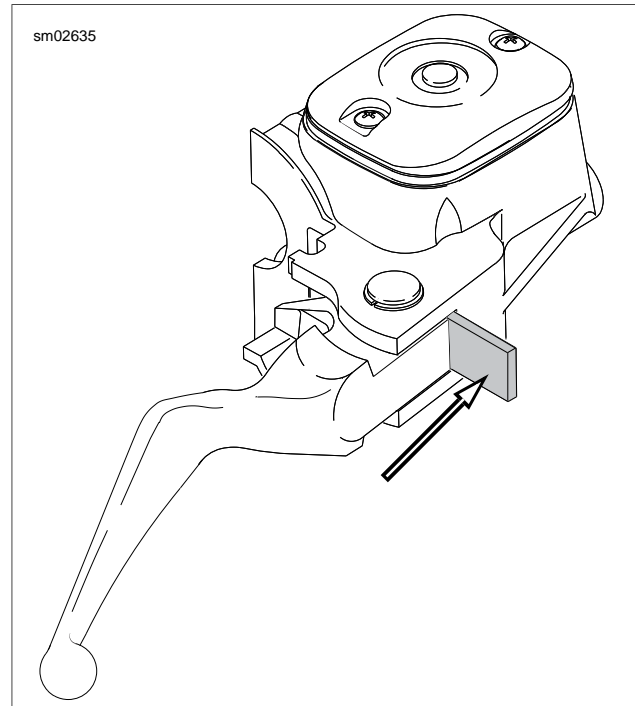

Figure 8-80. Install 5/32 in. (4 mm) Thickness Cardboard Insert
2. See Figure 8-80. Place the 5/32 in. (4 mm) thickness cardboard insert between the brake lever and lever bracket.